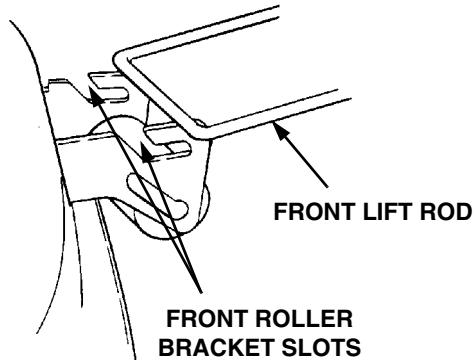

Figure 43
7. Raise the tractor implement lift handle to its highest setting. Roll the mower deck forward until the front lift rod slides up and out of the openings of both front roller bracket slots. Manually lift the rod out of the slots if necessary (Refer to Figure 43).
8. Raise the front lift rod upward and slide the mower deck rearward. Lower the front lift rod so it rests on the front roller bracket of the deck, forward of the slots (See Figure 43).